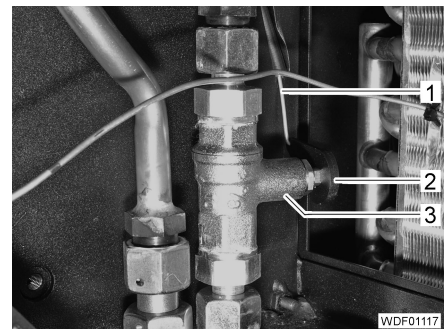

Fig. 452 Bottom fixing of Bowden cable
- Unscrew the screw on the lever (Fig. 452,2).
- Remove the lever and unhook the Bowden cable (Fig. 452,1).
- Hook in the Bowden cable (Fig. 452,1) on the lever (Fig. 452,2).
- Fit the lever onto the shut-off valve (Fig. 452,3).
- Screw in and tighten the screw on the lever (Fig. 452,2).